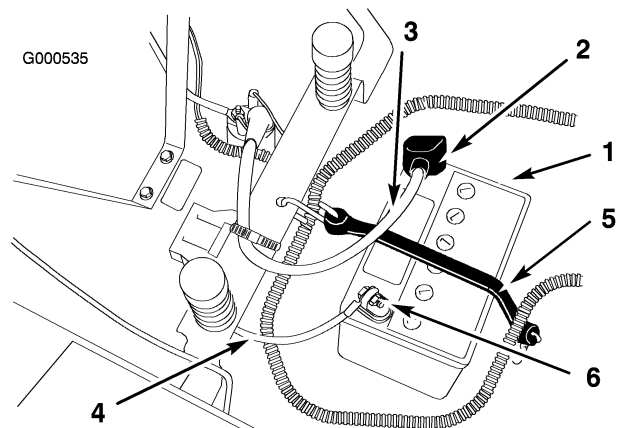

Figure 32
4. Disconnect the negative (black) ground cable from the battery post (Figure 32).
5. Slide the rubber cover up the positive (red) cable. Disconnect the positive (red) cable from the battery post (Figure 32).
6. Remove the battery hold-down (Figure 32) and lift the battery from the battery tray.
2. Look at the side of the battery. The electrolyte must be up to the Upper line (Figure 32). Do not allow the electrolyte to fall below the Lower line (Figure 32).
3. Remove the vent caps from the battery (Figure 32).
4. Slowly pour distilled water into each battery cell until the electrolyte level is up to the Upper line (Figure 32) on the battery case.
5. Wait five to ten minutes after filling the battery cells. Add distilled water, if necessary, until the electrolyte level is up to the Upper line (Figure 32) on the battery case.
1. Position the battery in the tray with the terminal posts away from the control panel (Figure 32).
4. Secure the cables with 2 bolts (1/4 x 3/4 inch), washers (1/4 inch), and nuts (1/4 inch) (Figure 32).
6. Secure the battery with the hold-down (Figure 32).